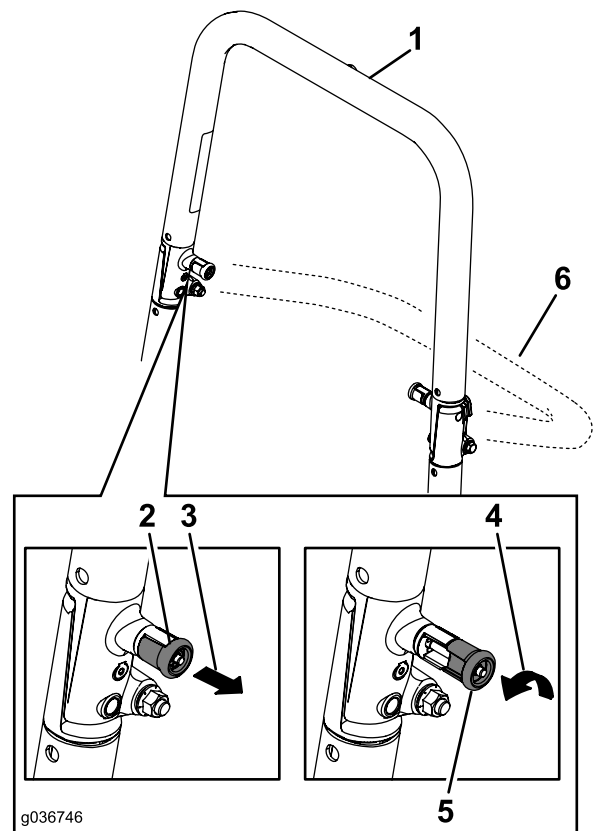

Figure 8
2. Pull both knobs out and rotate them 90 degrees so that they are not engaged (Figure 8).
3. Lower the roll bar to the down position (Figure 8).
1. Raise the roll bar to the operating position and rotate the knobs until they move partially into the grooves (Figure 8).
2. Raise the roll bar to the full upright position while pushing on the upper roll bar so that the pins snap into position when the holes align with the pins (Figure 8).